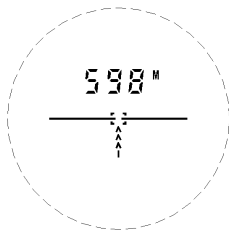

Fig. 2.2
2. Press down the OPEN button. The lens will display "— — — M", which are the crosshairs (see Fig. 2.1). If the lens displays a different mode, then press the MODE button till you reach the Ranging Mode display. Aim the Laser Range Finder at your desired object. Press and release the OPEN button (short press) until the distance to the object is displayed on the lens (see Fig. 2.2 on page 12).